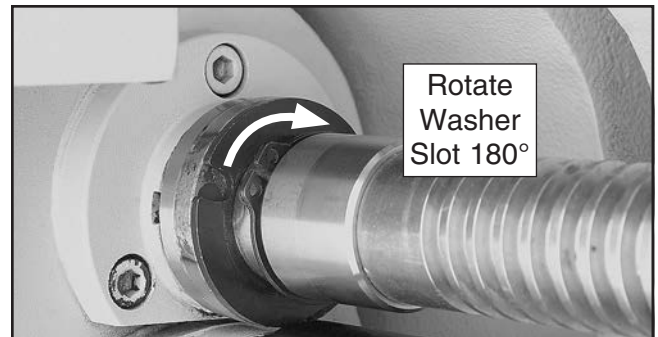

Figure 133. Shroud washer positioning.
- With the pin completely seated in the bore and the head flush with the leadscrew shoulder, slide the shroud washer against the shoulder, then rotate the washer 180° to completely cover the head of the shear pin, as shown in **Figure 133**.